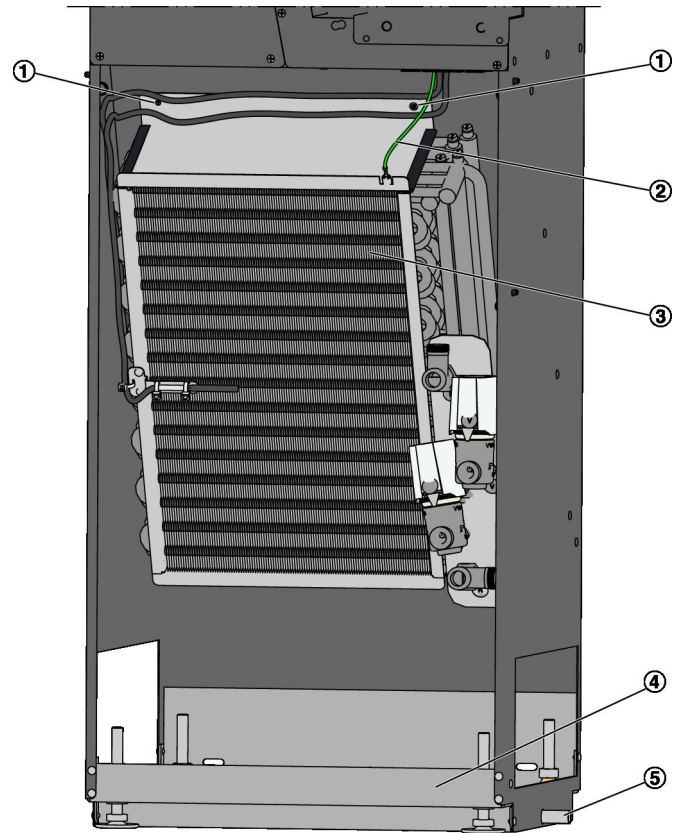

Fig. 30: Heat exchanger (SCHOOLAIR-V shown)
Remove the protective earth conductor (Fig. 30/2) from the heat exchanger.
Loosen the two Phillips screws (Fig. 30/1); you can then lift the heat exchanger (Fig. 30/3) out of the unit.
7. ▶ ■ Clean the condensate drip tray (Fig. 30/4) with a commercially available cleaner or disinfectant.
- Check that the condensate drain (Fig. 30/5) (optional) is not blocked.